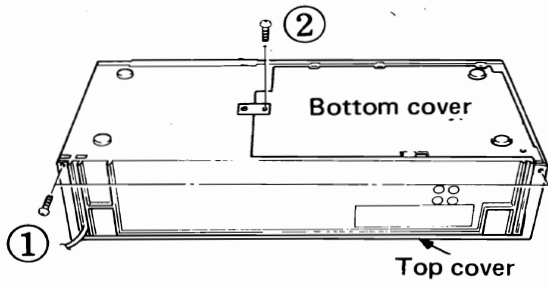

Fig. 1
1. **Top Cover (Fig. 1)**
2. **Bottom Cover (Fig. 1)**